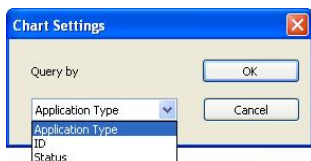

Figure 2-8
2. On the Dispatch Server window, click the **Server Setting** button (No. 3, Figure 2-1). The Dispatch Server Setting dialog box (Figure 2-8) appears.